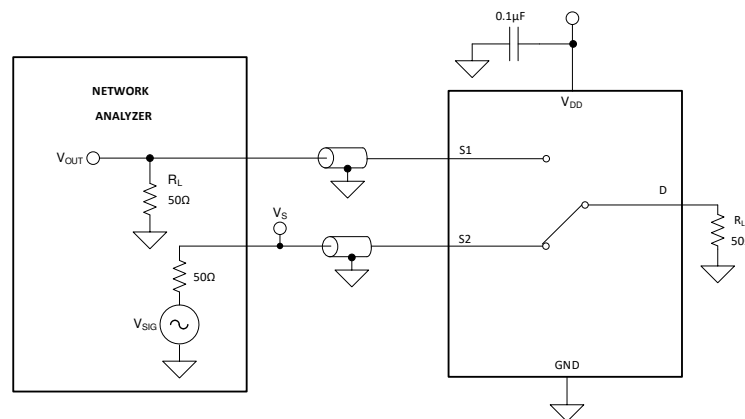

图 23. Crosstalk Measurement Setup
Crosstalk is defined as the ratio of the signal at the drain pin (D) of a different channel, when a signal is applied at the source pin (Sx) of an on-channel. 图 23 shows the setup used to measure, and the equation used to calculate crosstalk.